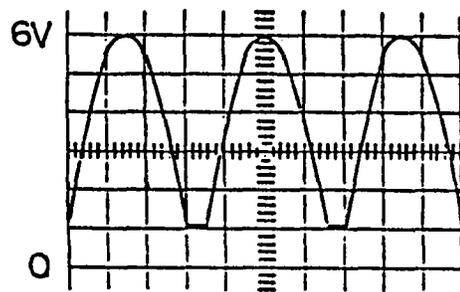

Figure 5-4. NRZI Read Output
- While writing, scope each track on the NRZI Read board, slot 9A, and adjust its level to 6.0 volts zero-to-peak, as shown in Figure 5-4.